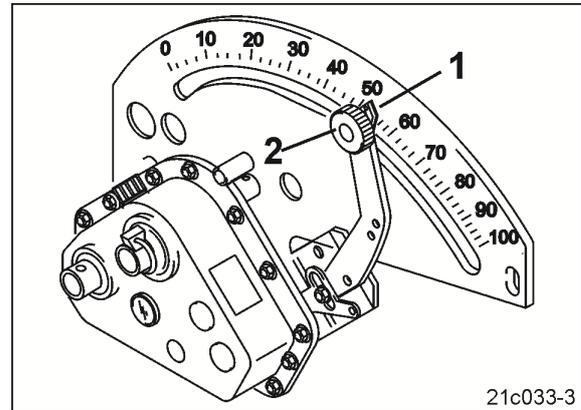

Fig. 29
Calibration test on cam wheel seed drills (e.g. D9) and pneumatic seed drills (e.g. AD-P) with Vario gearbox without seed rate remote control (Fig. 29).
11. Set the gearbox setting lever (Fig. 29/1) to the scale value and fasten with the knurled screw (Fig. 29/2).
19. Set the gearbox setting lever (Fig. 29/1) to the scale value and fasten with the knurled screw (Fig. 29/2).